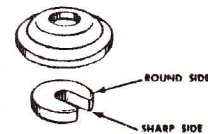

Fig. 12. Proper Assembly of "C" Lockwasher
13. Reassemble valve, valve spring, valve spring retainer and "C" lockwasher (Fig. 12). Note: "C" lock fits with curved outer edge against valve spring retainer.